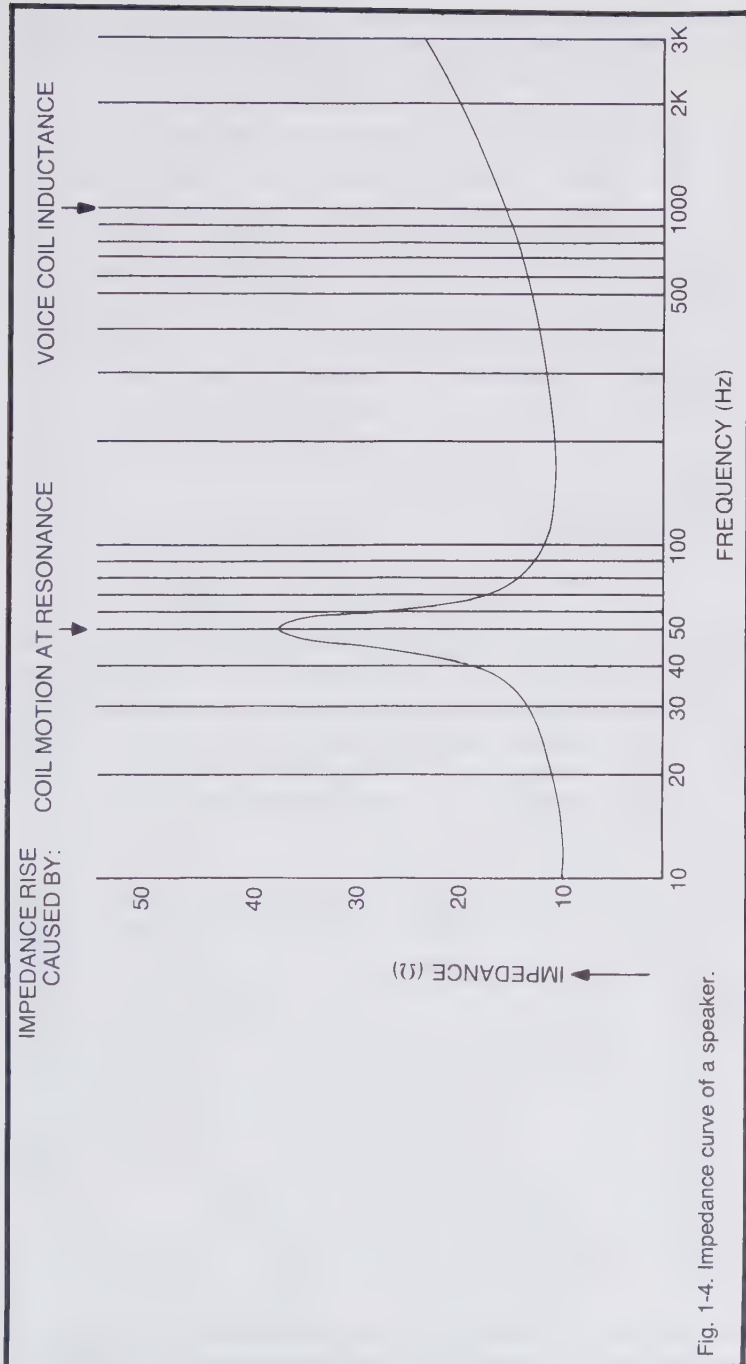

Fig. 1-4. Impedance curve of a speaker.
If you measure the speaker's impedance at various frequencies and plot a graph of the values you get, the curve will look similar to that in Fig. 1-4. The gradual rise in impedance at high frequencies is no surprise, but why the hump at 50 Hz? This hump corresponds to the frequency of resonance. At resonance, the vibration of the voice coil in the magnetic field increases the back emf, giving the same effect as a rise in impedance.
While a speaker's impedance curve looks like the curve in Fig. 1-4, it is the acoustical output near resonance that is important. However, the approximate value of Q can be found from the impedance curve by getting the ratio of the impedance peak (Z) to the voice coil dc resistance (R_e) as well as the shape of the curve. The speaker's total Q is a combination of its mechanical Q and its electrical Q, and the system Q is influenced by the amplifier's damping factor. Typical values for the mechanical Q of speakers range from 2 or 3 up to 12 or higher. Electrical Q varies from a low of about 0.2 up to 2 or 3. A speaker's total Q is somewhat lower than its electrical Q.